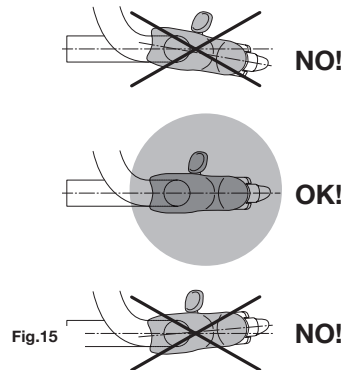

Fig.15
- Ergopower commands that are loose or not correctly positioned on the handlebar (Fig. 15).